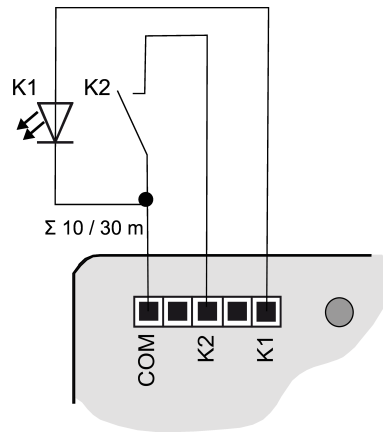
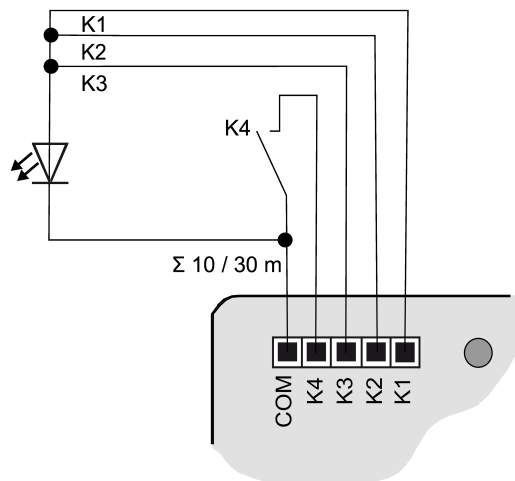

Figure 3: Connection example: push-button interface 2-gang
Figure 6: Connection example with outputs switched in parallel
- Connect push-buttons, switches, contacts, LED or NTC to enclosed connecting cables (4) according to the connection examples; (see figure 3) to (see figure 6). The connection examples show the use with inputs and outputs.
**i** To increase the output current, outputs can also be switched parallel to each other with the same parameterization; in the example here, (see figure 6) K1-K3 are switched in parallel.